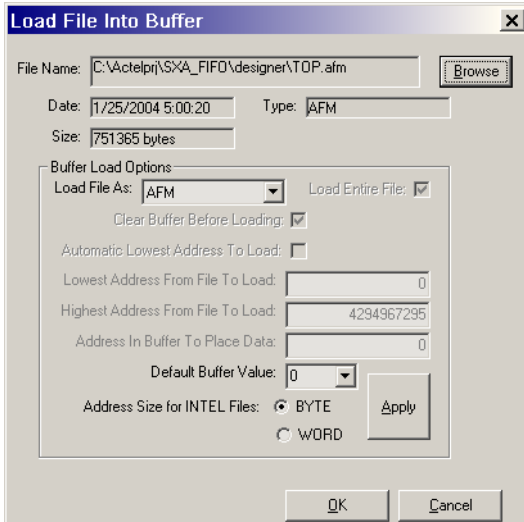

Figure 1-5. Data Pattern Dialog Box
1. **Open the Data Pattern window.** Click the **Data Pattern** button in the **Action/Function** window. See Figure 1-5.